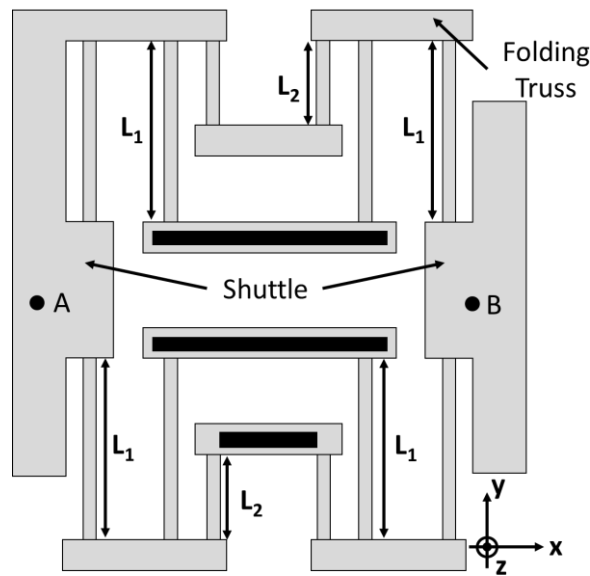

Fig. PS4.2
- 2) Fig. PS4.2 presents top view of a $2\ \mu\text{m}$ -thick polysilicon structure suspended $2\ \mu\text{m}$ above the substrate except for the anchoring locations indicated as the darkly shaded regions. Key dimensions for the beams and data on the structural material used in this problem are given in the box below the figure. Assume that all folding trusses and shuttles are rigid in all directions.